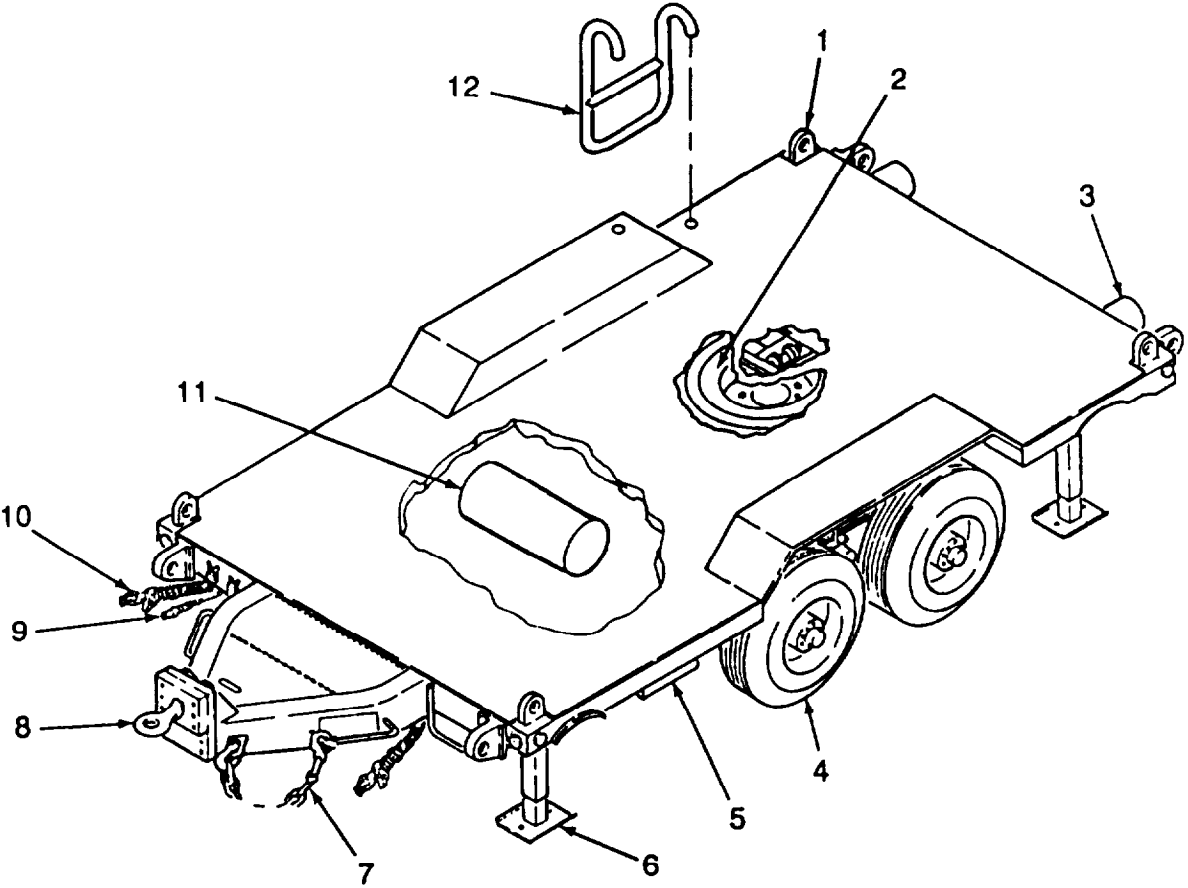

Figure 1-4. Flatbed Cargo Trailer (Models WPES-10 and H-9518-1).
- f. Flatbed Cargo Trailer (Models WPES-10 and H-9518-1). Refer to figure 1-4. The trailer provides a mobile platform for the ROWPU. The trailer includes an emergency and automatic parking brake function that is activated when the air hoses are disconnected from the towing vehicle.